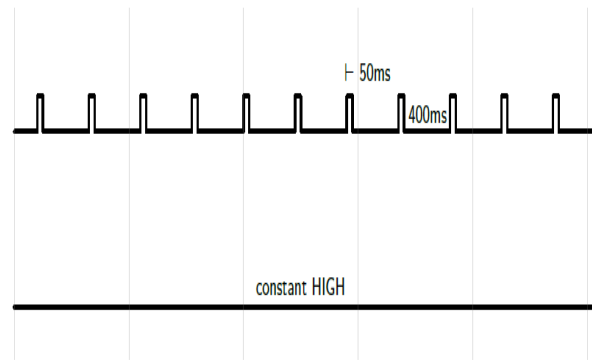

Figure 2.13 Low battery indicator timing
- Pulse patterns are shown in the Figure 2.13 Low battery indicator timing.